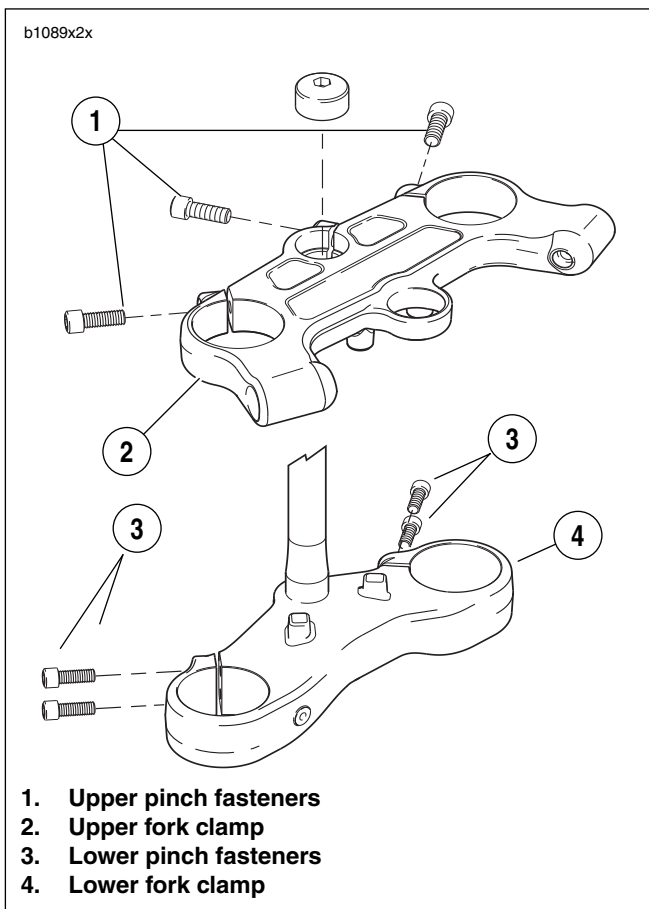

Figure 2-62. Upper and Lower Fork Clamp Pinch Fasteners
7. See Figure 2-62. Remove fork from lower fork clamp (4).